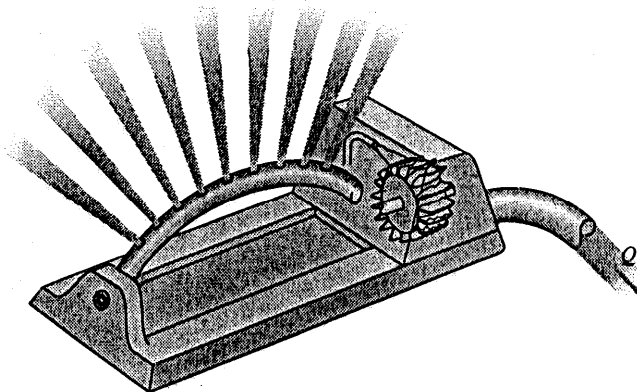

FIGURE P12.43
12.43 A small Pelton wheel is used to power an oscillating lawn sprinkler as shown in Video V12.4 and Fig. P12.43. The arithmetic mean radius of the turbine is 1 in. and the exit angle of the blade is 135 degrees relative to the blade motion. Water is supplied through a single 0.20-in. diameter nozzle at a speed of 50 ft/s. Determine the flowrate, the maximum torque developed, and the maximum power developed by this turbine.